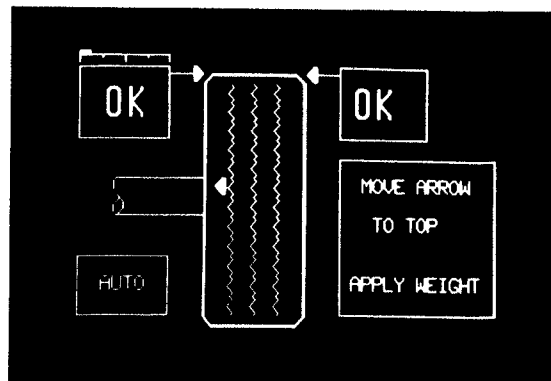

FIGURE 17. FINE BALANCE BARS
1). DO NOT LIFT TIRE SHIELD after regular balance is completed. If OK is displayed, press "START". (Balancer now calculates fine balance, but does NOT do a balancing spin.) If out of balance exceeds 1/32 oz. (.75 gr. on grams setting), a bar graph appears over the OK box. See Figure 17. The bar graph scale represents one quarter ounce (5 gr. on grams setting). Accuracy is displayed within one thirty-second of an ounce, measured between the 1/16 oz. divisions on the scale.